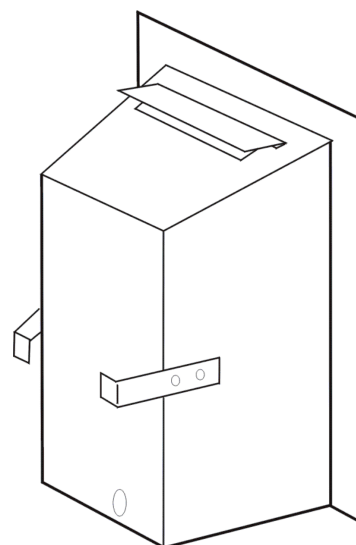

Figure 12. Fireback spacers
5. The appliance is supplied with two fireback spacers. **Do not fit the fireback spacers if the fire is to be installed into a precast or clay flue block system as in section 3.2.3.** These should extend backwards to ensure sufficient clearance from the back of the fireplace. Remove the label and retaining screws from the rear sides of the hotbox. Position the fireback spacer as shown in figure 12. Secure the fireback spacers using the screws removed previously and the two supplied with the fire.